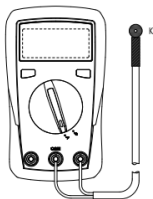

Figure 5
9. Temperature Measurement (only for UT131C, see Figure 5)